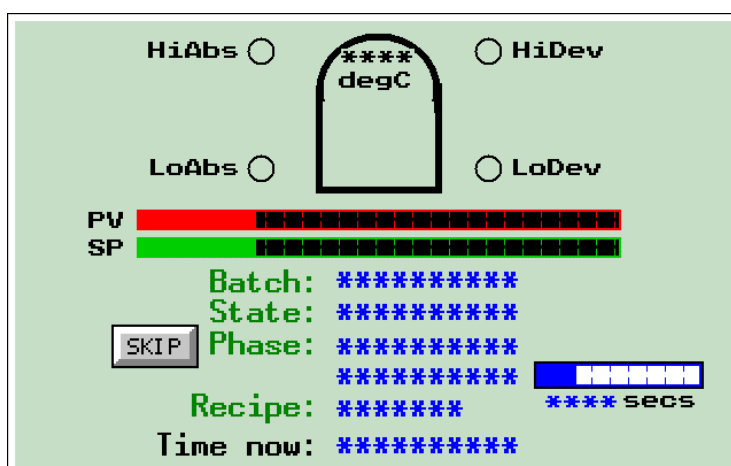

Figure 8-13 The modified user screen – ‘skip’ button & progress bar added
We will now add the ‘skip’ button to the user screen, and also, while we are about it, a convenient ‘progress bar’ that lets the operator see approximately how much longer a timed phase will take to reach completion. Figure 8-13 shows what we are aiming at.
- 7 Now create a ‘progress bar’. Click the **Bar Chart** tool  and draw a horizontal bar 72 pixels wide by 10 high on a blank area of the screen. Position the bar to the right of the second ‘Phase’ readout (see Figure 8-13).